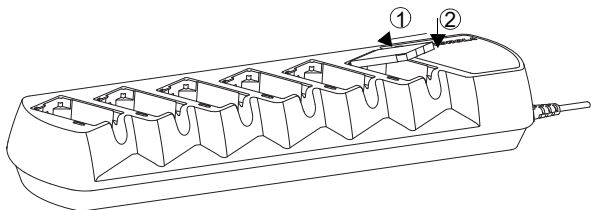
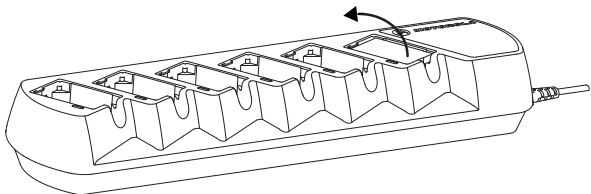

Figure 4: Sliding the battery into charger pocket
Figure 5: Lifting the battery from the charger pocket
4. To charge a battery, insert the battery into the charger's pocket by: (See Figure 4 and Figure 5)